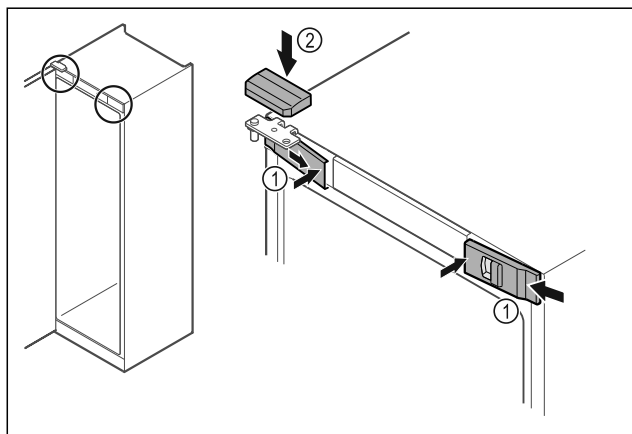

Fig. 44
- ▶ Hook in the front covers Fig. 44 (1) on the side and snap them into place on the inside.
- ▶ Snap on the top cover Fig. 44 (2) from above.